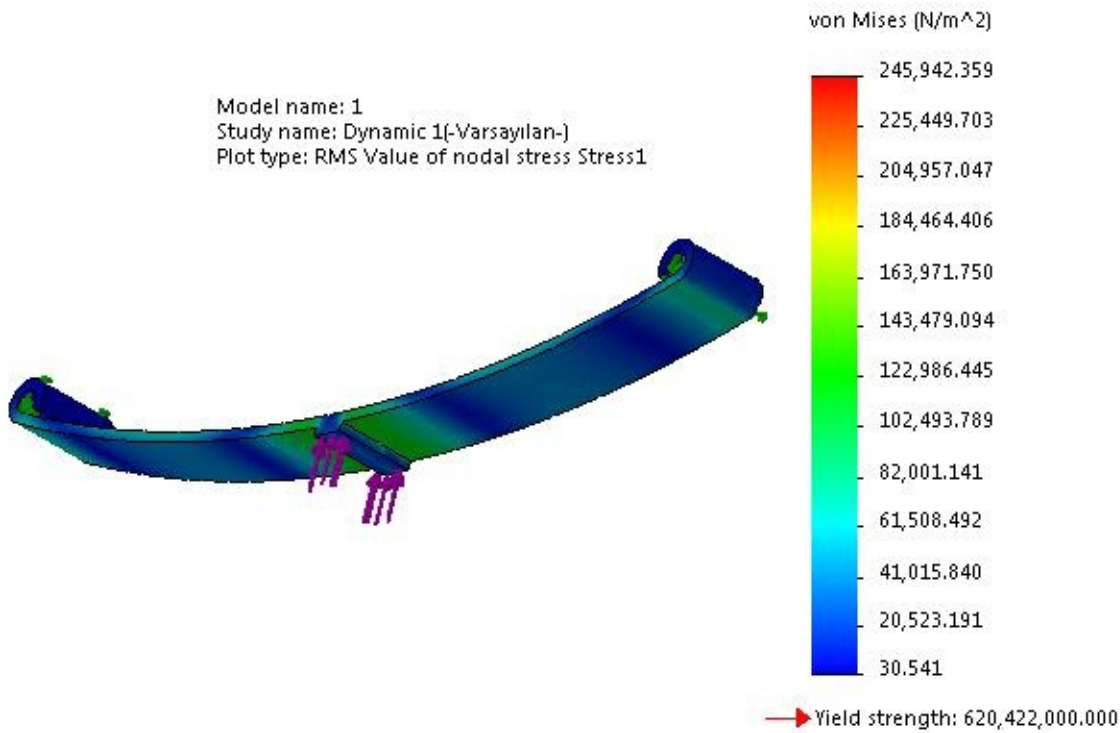

Figure-7. Result
- Click on the **Run** button from the **Ribbon**. The system will start analyzing the problem. Once the system is done, the results will be displayed in the **Modeling** area; refer to Figure-7.